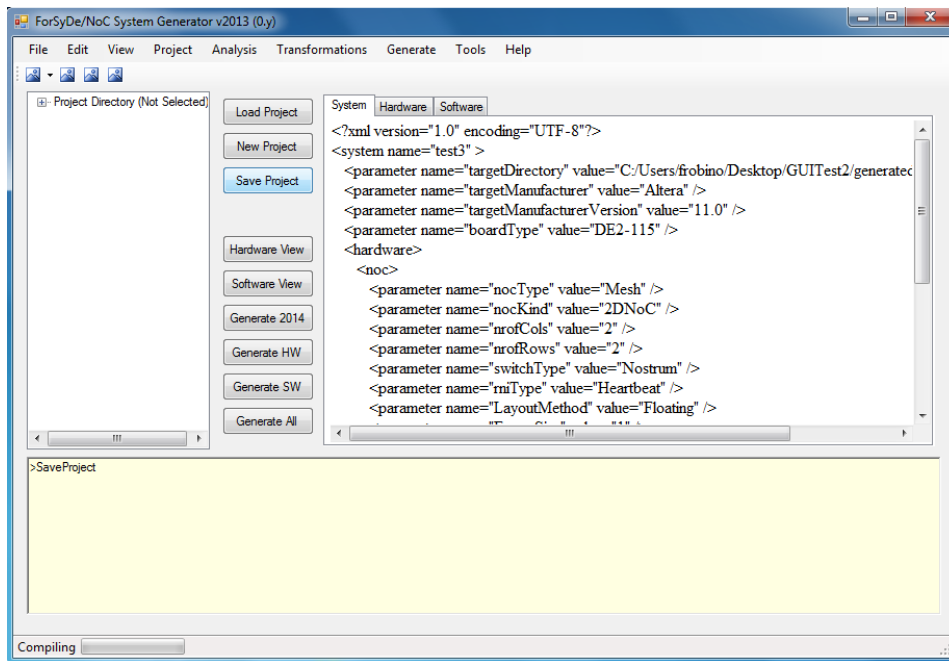

Figure 2.6.: The main window after the project has been created
5. Save the project before you start with next step by pressing the *Save Project* button (if there is an asterisk in the System Tab – System\* your project has been modified and needs saving). After you have saved, the main window of the NSG tool should look as the one in Figure 2.6.